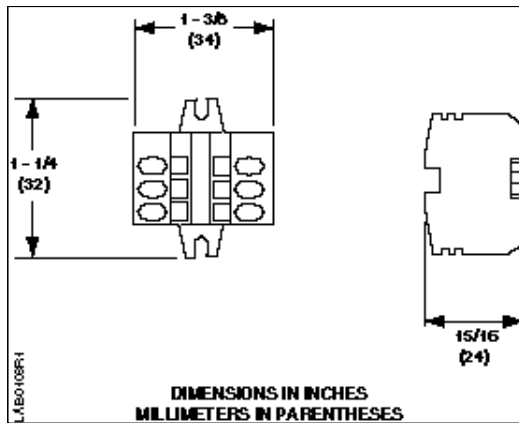

Figure 7. Terminal Block.
5. Connect a certified 24 Vac Class II power source to the LRCs power supply terminal block by inserting a 1/8-inch flat-blade screwdriver into a rectangular slot on the terminal block. The screwdriver will come into contact with a lever. Continue applying pressure until the lever releases and moves out of the way. Insert the wire and then remove the screwdriver (Figure 7).